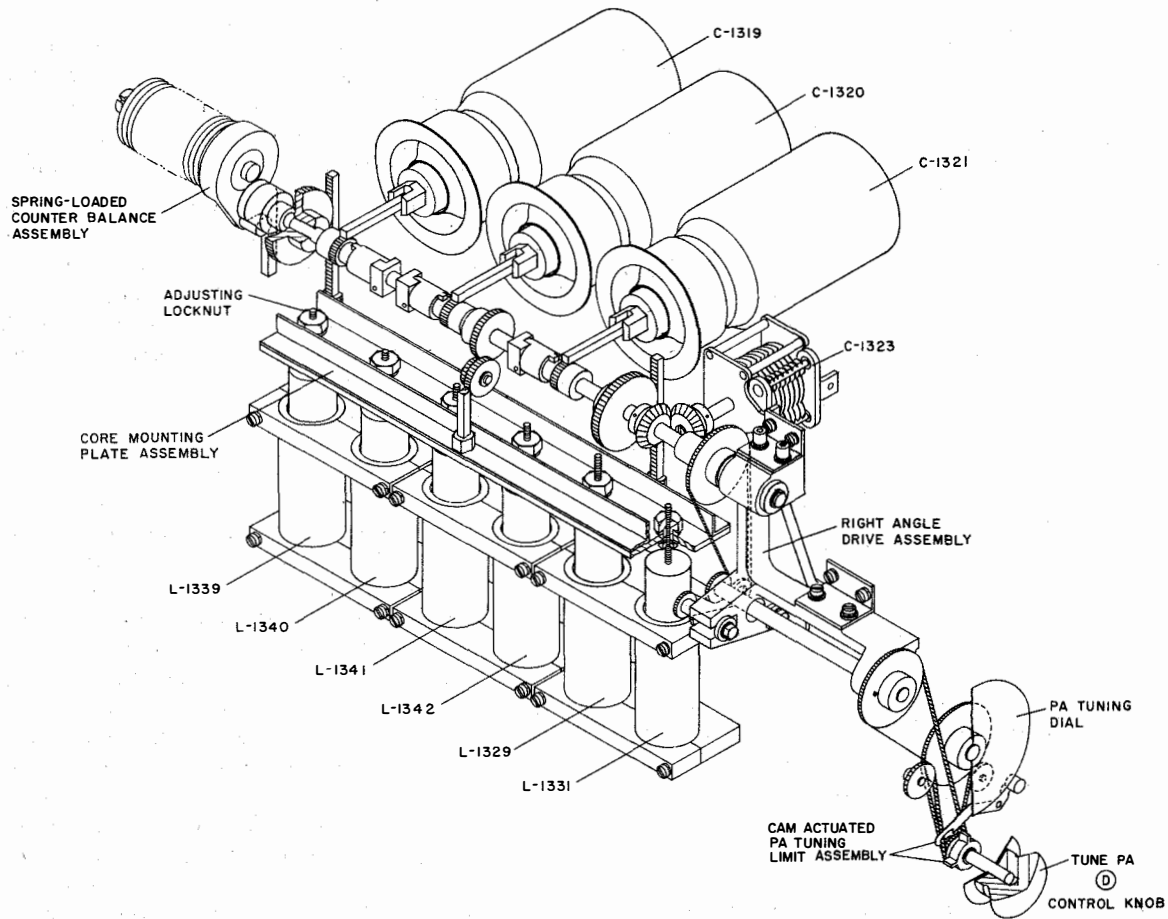

Figure 2-107. PA Tuning, Mechanical Linkages
b. PA TUNING.—After buffer and IPA tuning are completed, the PA harmonic filter must similarly be tuned for maximum output. The shaft of the TUNE PA control ⓓ (figure 2-107) is coupled by a chain drive to a right-angle drive which transfers the horizontal rotary drive to a vertical drive and then back to a horizontal drive where it couples, with a 10-to-1 reduction, to a shaft on which are mounted the gears and racks and pinions required for tuning the components of the PA harmonic filter. The cores of tuning inductors L-1339, L-1340, L-1341, L-1342, L-1329, L-1331 are mounted on a core-mounting plate assembly by means of adjusting locknuts, adjusted so the tuning inductors tune through the proper range for the frequency band selected. As the shaft is rotated, the mounting plate assembly is moved up or down by rack-and-pinion arrangement which is actuated by gears mounted on the shaft. This moves the cores in or out of the coils to tune the inductors. The adjustable plates of the special vacuum tuning capacitors C-1319, C-1320, and C-1321 are moved in and out of the cylindrical housing by means of a similar rack-and-pinion arrangement. A special spring is mounted eccentrically at the end of the rotary shaft to counterbalance the back pressure caused when the adjustable plates of the vacuum tuning capacitors are moved in. The rotor of tuning capacitor C-1323 is coupled by bevel gears to the shaft.